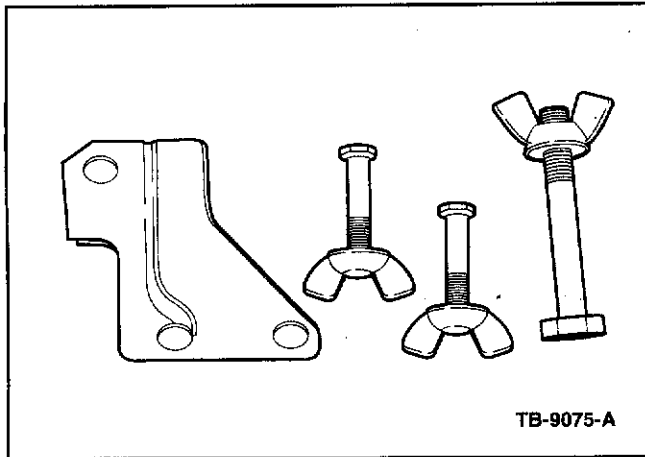

Figure 9 - Article 08-9-9
7. Install holding tool using the supplied plastic bolts and wing nuts. (Figures 9 and 10)